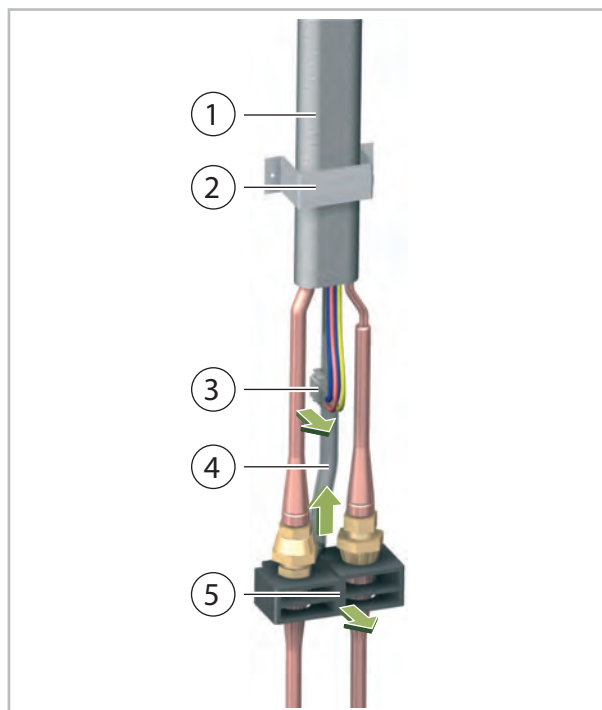

Fig. 13: Dismantling the connecting line
5. ➤ Unscrew the fastening clip from the connecting line (Fig. 13).
6. ➤ Push in the side clips on the plugged connection and pull the plug out of the socket (Fig. 13).
7. ➤ Remove the upper section from the bracket by means of unscrewing the two screws (Fig. 13).
8. ➤ Pull off the condensate drainage hose (Fig. 13).